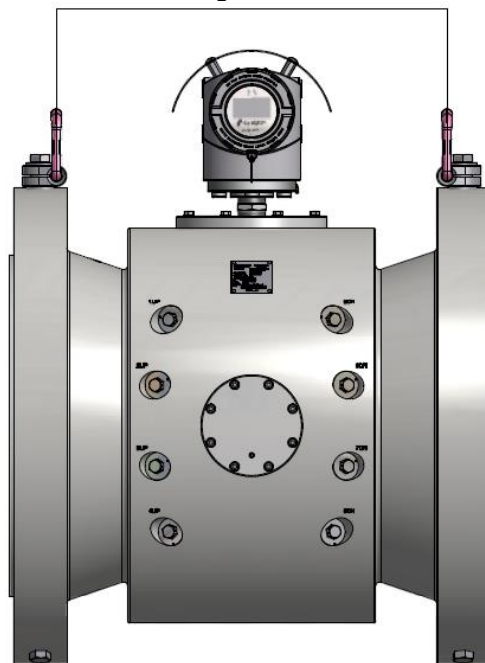

Figure 2.3 Hoist rings used at 0° with a lifting bar above the electronics unit allow for uniform lifting.
4. To avoid damaging the transmitter enclosure, ensure that the slings do not come into contact with it. Consider using a spreader bar (as shown in Figure 2.3), in order to ensure that the angle between the slings does not exceed 90 degrees.